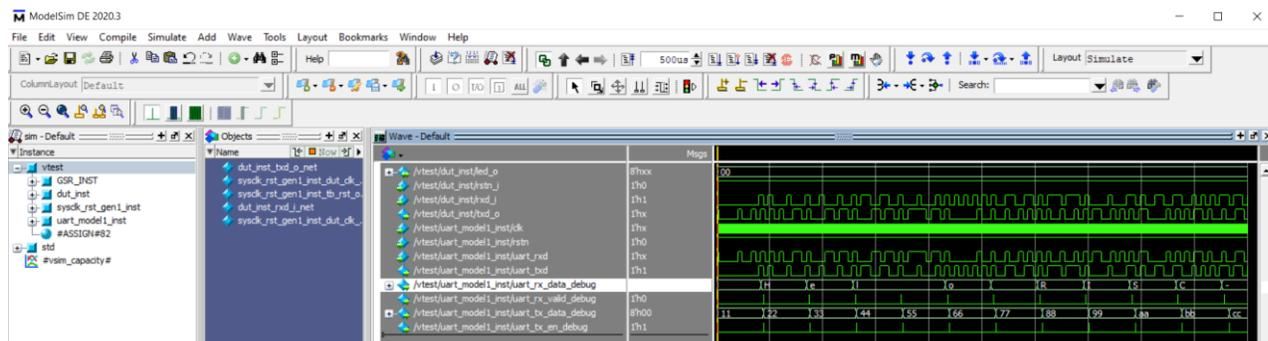

Figure 3.31. Waveform of Hello World Project
- ModelSim is launched running simulation for the SoC verification project. The corresponding waveform of the SoC verification project for the Hello World project is shown (Figure 3.31). Check the waveform.
The Hello World Project is designed to print some strings using a top-level UART port. The testbench instantiates a UART model to receive these data. Each byte (refer to `uart_rx_data` shown in Figure 3.31) can be checked using ASCII format. Meanwhile, this UART model also supports sending the data to Design Under Test (DUT). The data is stored in a text file and is enabled by the `STIMULUS_GEN` parameter.